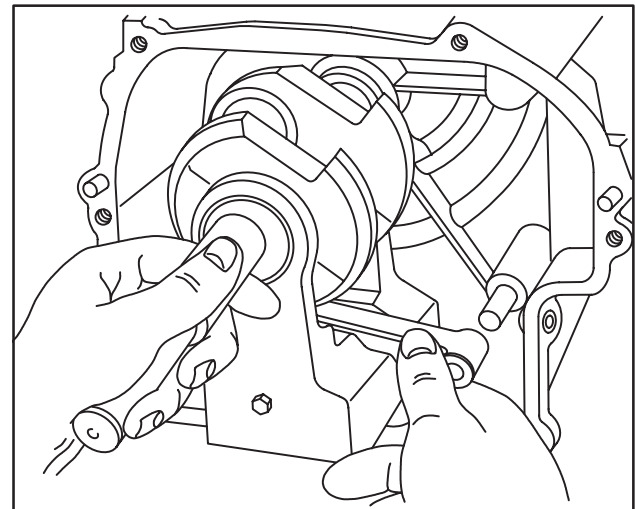

Fig. 192 – INSTALLING CRANKSHAFT AND COUNTERWEIGHT ASSEMBLY
10. Align link with crankcase link pin and push assembly into place, Fig. 192.